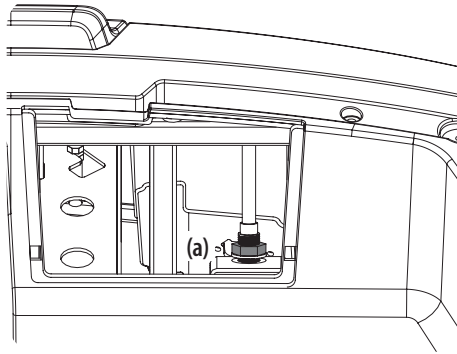

Figure 5-19
- Locate the shift lever adjustment nuts (a). See Figure 5-19.
- Adjust the nuts (a) up or down until the shift lever is working properly. See Figure 5-19.